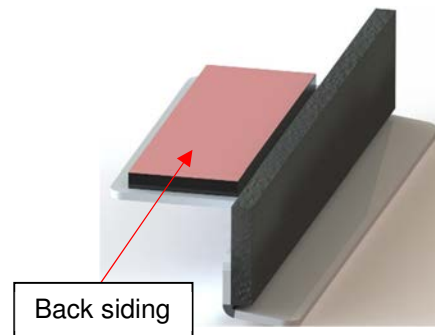

Figure 101
- 3) Under the cover locate the I-beam and orient the wide flap of the wiper bracket outwards of cover. (Figure 101)